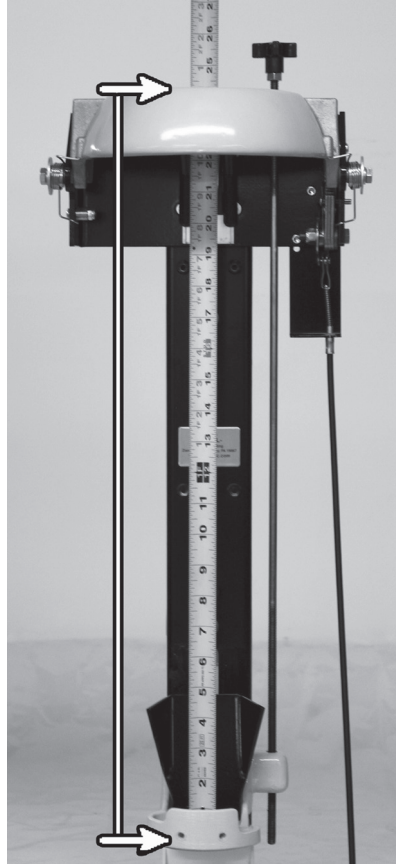

Figure 5
11. Measure the distance from the inside bottom of the Footplate to the inside top of the closed Top Clamp (see Figure 5, page 10). This distance should equal your overall length of the air cylinder plus 1/2". Use the Adjustment Rod Knob to turn the Footplate Adjustment Rod and achieve this measurement.